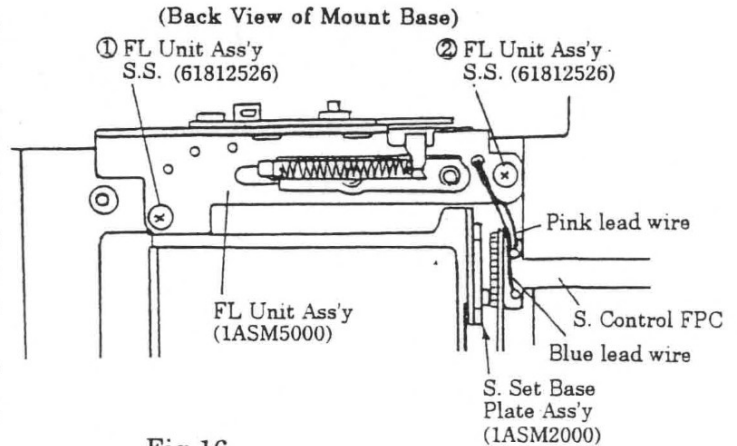

Fig.16
- 2) Unsolder the Pink and Blue lead wires (from FL Board) on the S. Control FPC. (See Fig. 16)
- 3) Tighten the FL Unit Ass'y Setscrews (61812526) × 2 in the numerical order as shown in Fig. 16.